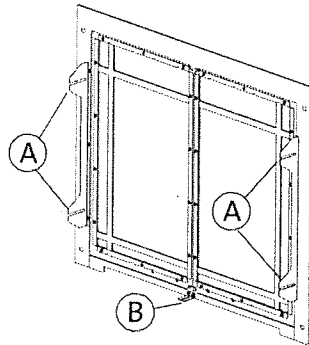

Figure 6.28
1. Using the 4 mm hex key provided, loosen the cabinet screws enough to enable the door frame clevises to engage behind them. See figs. 6.28 - 6.30.